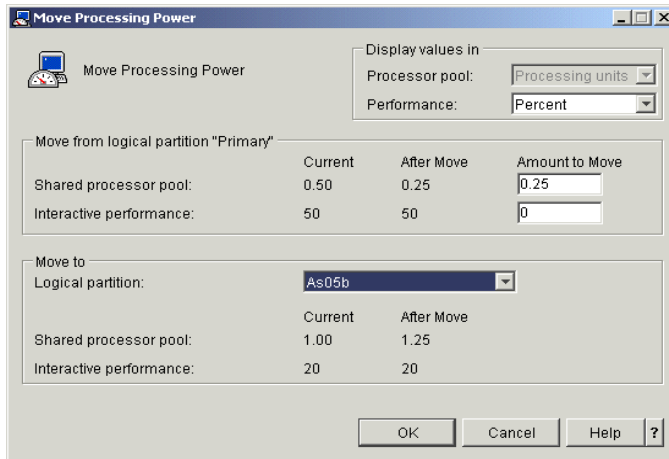

Figure 8-9 Move Processing Power display
4. The Move Processing Power window appears as shown in Figure 8-9.